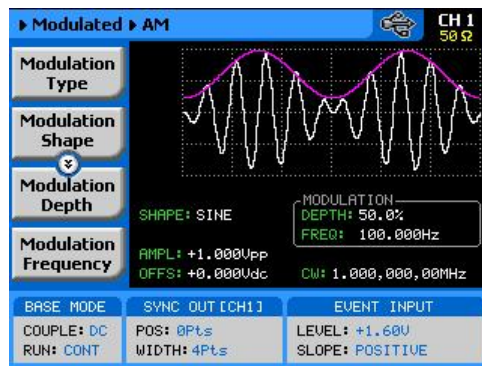

Figure 3-43, AM Menu
The AM function enables amplitude modulation of a carrier waveform (CW). The carrier waveform is modulated by an internal waveform, normally referred to as envelope waveform. The envelope waveform can be selected from sine, triangle square or ramp shapes. When AM is selected, the menus that are associated with AM become accessible. These are shown in Figure 3-43.